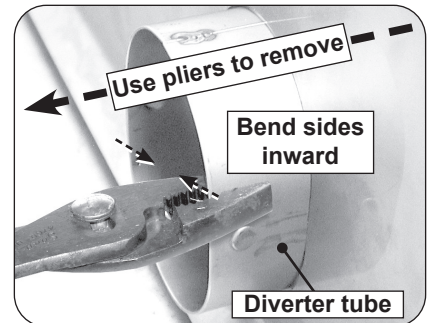
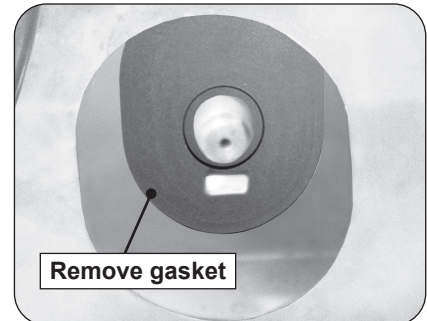

Fig. 2-3 Remove diverter tube
Fig. 2-4 Remove silicone gasket
7. **The grill is equipped with a flame arrester kit for each main burner. This kit is only functional with the standard main burner, and must be removed for proper infrared burner operation.** Use pliers to remove the diverter tube by bending in each side and pulling it outwards (see Fig. 2-3), then reach in and remove the silicone gasket (see Fig. 2-4).